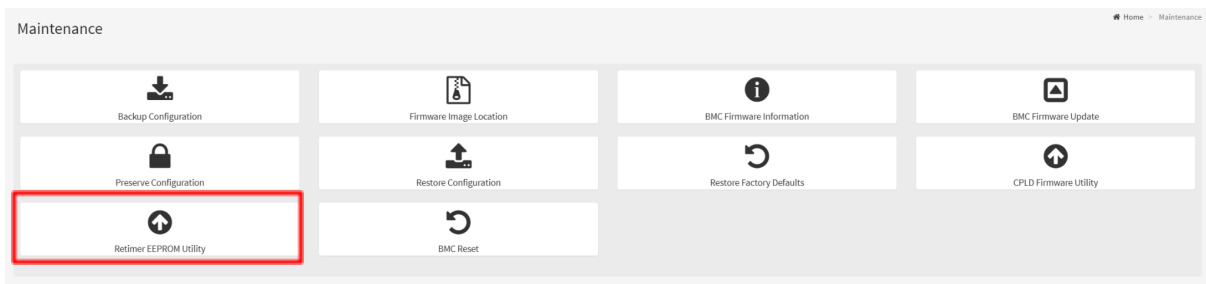

Figure 112. Navigating to the Retimer EEPROM Utility section.
D. Select the Retimer EEPROM Utility option (see Figure 112).